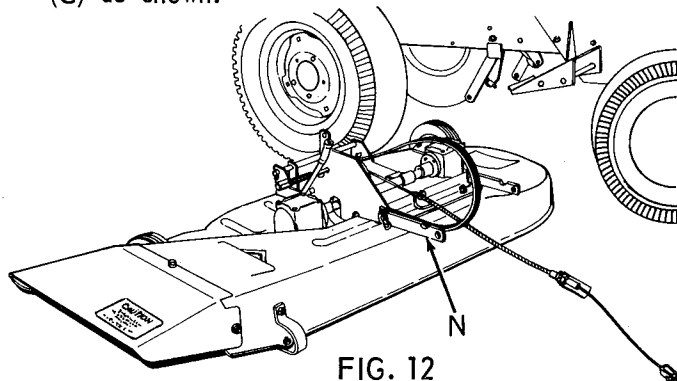

FIG. 12
5. Refer to Fig. 12. Make sure front pivot links (N) are forward as shown. With front wheels turned to left, slide mower under R.H. side of tractor.